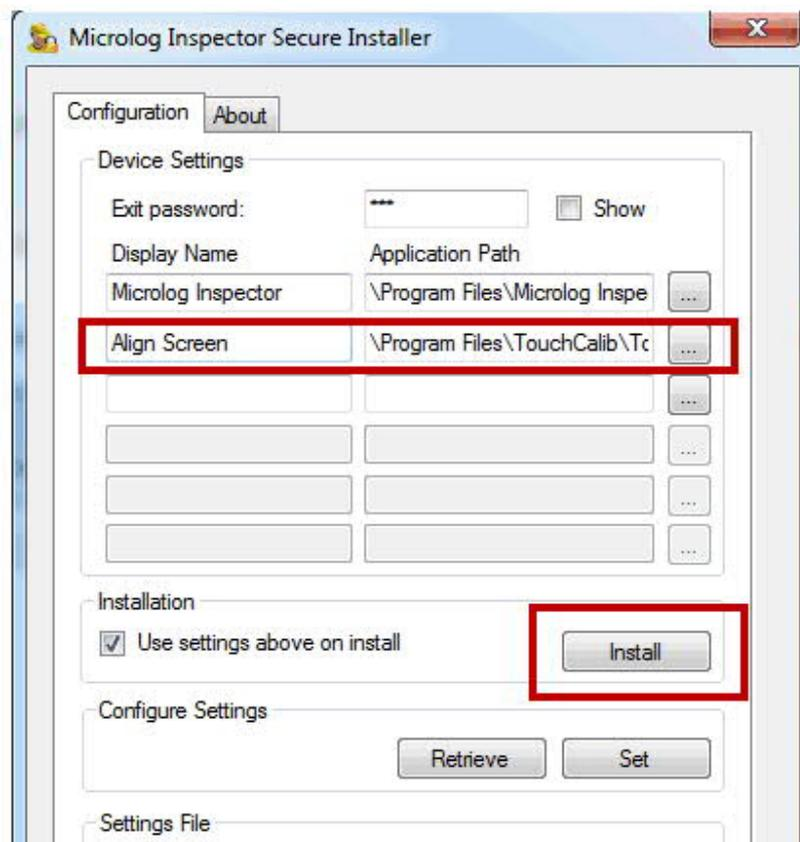

Figure 4. Choose a name
- Once the "TouchCalib.exe" file is selected, choose a Display Name for the program, such as "Align Screen." [Figure 4] Press Install when ready. If the Install button is grayed out, ensure the Exit password has been entered.